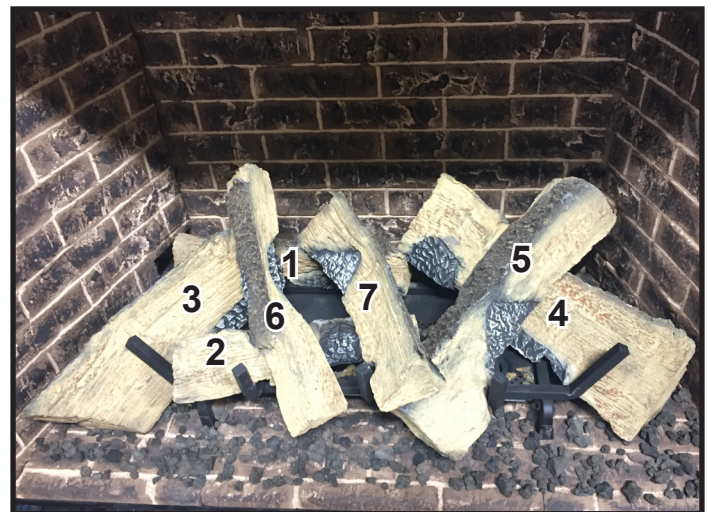

Figure 17. Log Set Installed.
**Log #7 (SRV2271-707):** Position Log #7 in the center of the firebox, mating with recesses in Log #1 and Log #5. Log #7 will rest on top of Log #2 and mate with middle grate. See Figure 17.